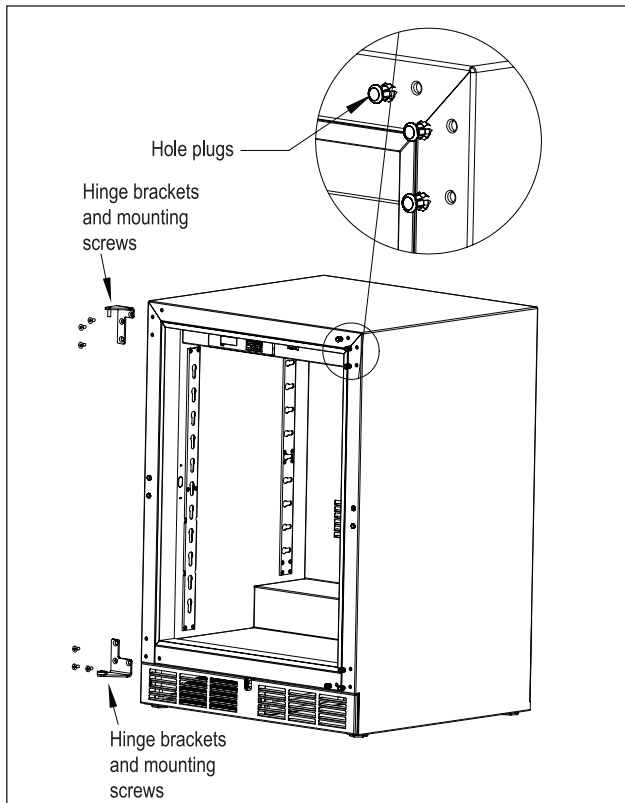

Figure 8. Hinge Removal
3) Remove top and bottom hinge brackets. Retain screws for later use. See Fig. 8 on page 9.
4) Remove the hole plugs from the top and bottom hinge bracket mounting holes (see Fig. 8 on page 9). Place the plugs in the holes on the opposite side made vacant by removing the hinges in step 3.